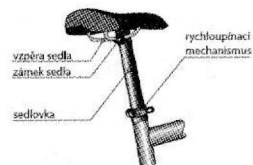

Fig. 1
- Secure the saddle by tightening the seat clamp bolt (9–14 Nm). (*Fig. 1 – Saddle height adjustment*)